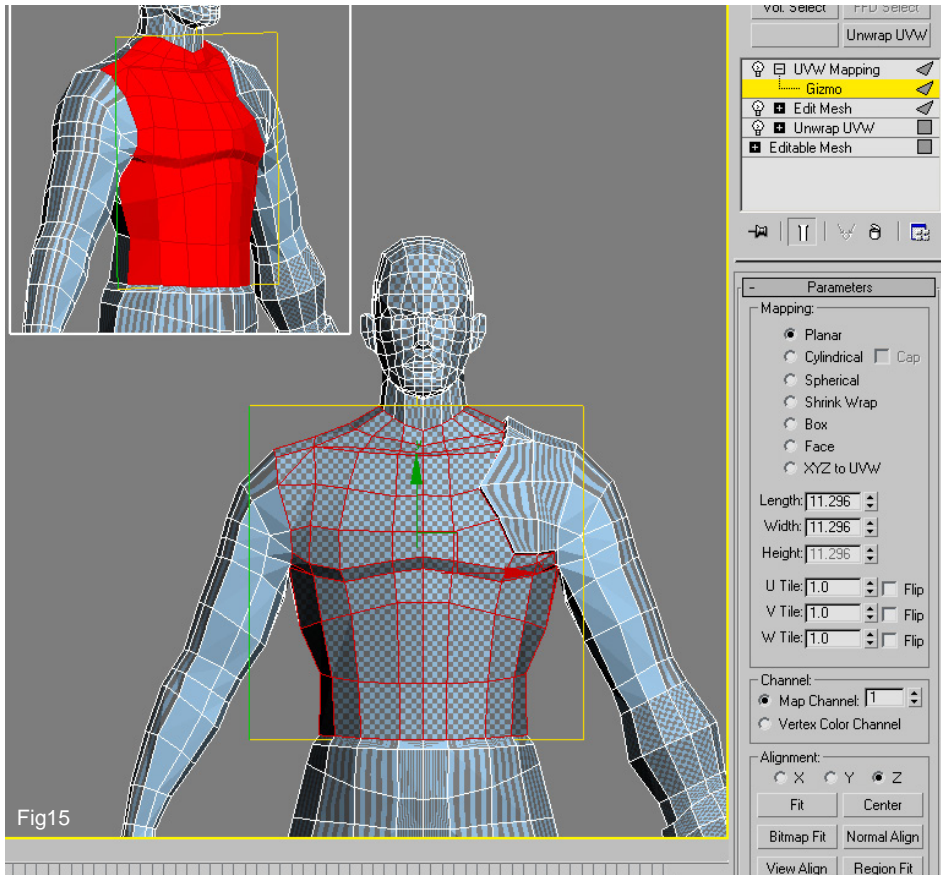

Fig15
15. Now it is time to move onto the torso. Select the front half of the body from the neck line down to the trousers and half way around the side as seen in Fig 15. As with the ears apply a Planar map whilst in the front viewport making sure to then click on View Align and then Bitmap Fit under the Alignment parameters.